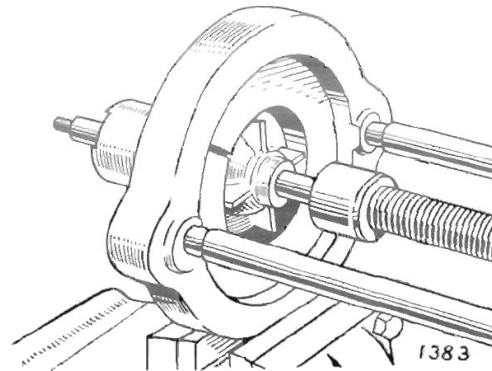
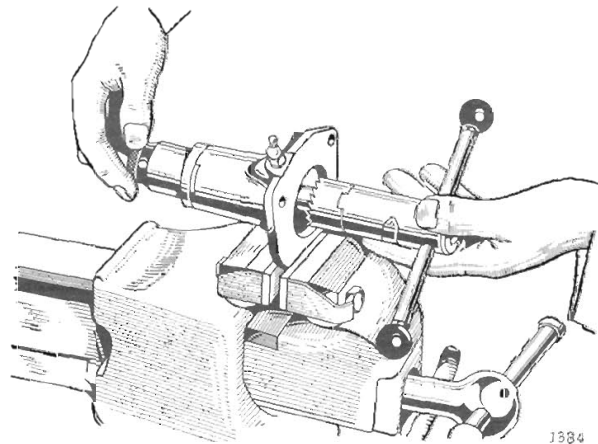

Fig. 11. Removing impeller from pump spindle
Fig. 12. Re-cutting sealing gland face
1. Remove items (17) and (18) and detach the pulley (21).
2. Use Churchill Tool No. FTS.127 with Press S 4221A to remove the impeller (31) and seal assembly (30). (See Fig. 11.)
3. Remove the circlip (23) and drift out shaft and ball race assembly.
4. Remove the spinner (27), circlip (26), washer (14) and Woodruff key (13) from the shaft (28) and press off items (24) and (25).
**Re-Cutting the Sealing Gland Face (Fig. 12)**